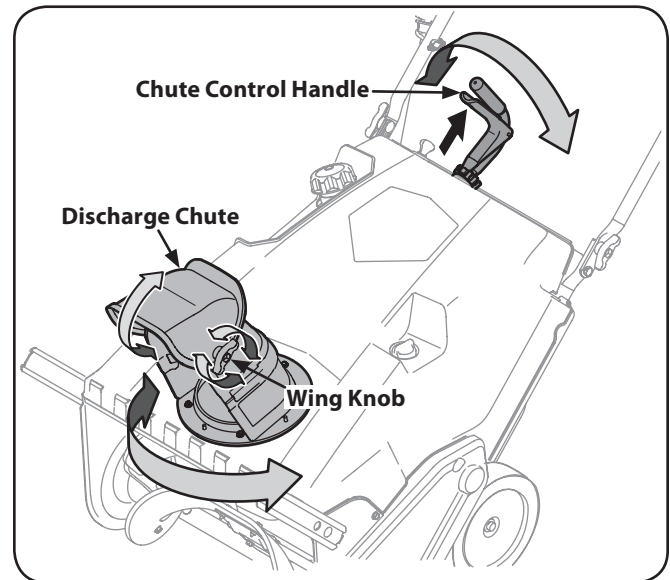

Figure 5-2
1. Rotate the discharge chute to the left or right using the chute rotation control. See Fig. 5-2.
2. To adjust the pitch, loosen the wing knob on the side of the discharge chute and pivot the discharge chute upward or downward. Retighten the knob once the desired position has been achieved. See Fig. 5-2.